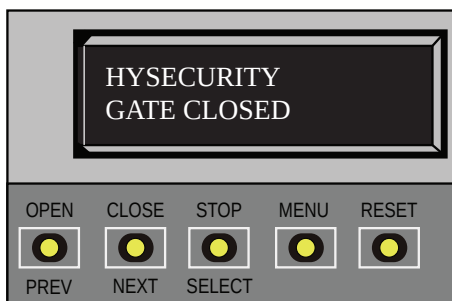

Figure 38. HySecurity Gate Closed
1. Start at a gate status display. To bypass the Operator Status Displays, press the MENU button twice. See Figure 38.